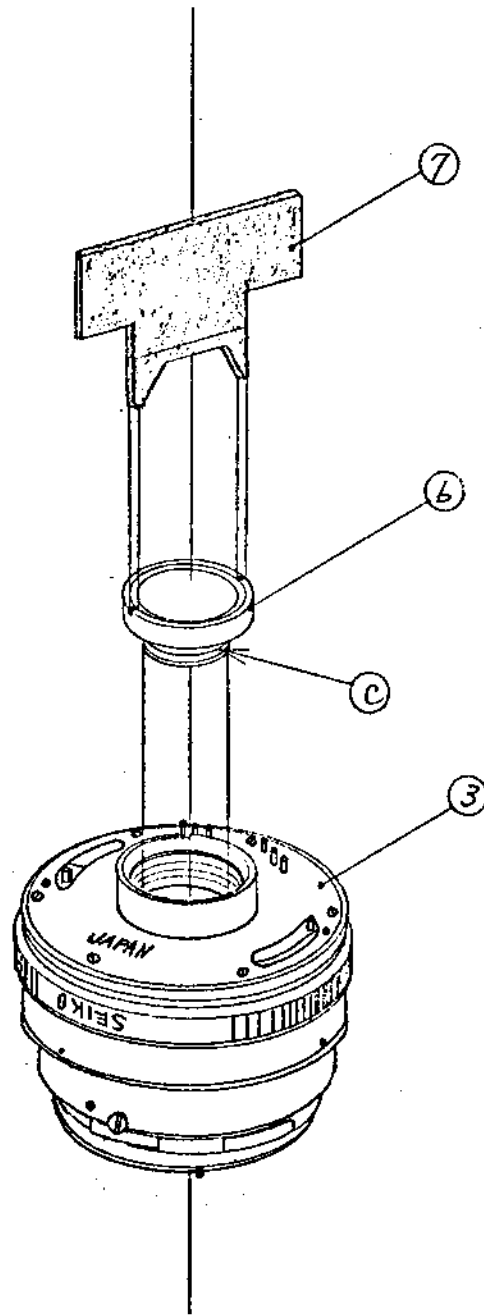

Fig. 2
Apply grease to the threaded portion (C) of the rear lens group (6) and then screw it into the helicoid with front and rear frame installed (3) by using a pin-face wrench (7). Fig. 2